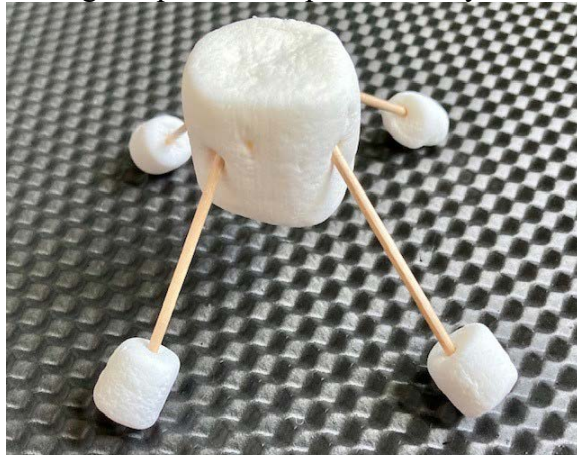

Figure 2. Small marshmallows are added on to the ends of the four toothpicks.
3. Place a small marshmallow at the end of each of the four toothpicks as shown in *Figure 2*. These make the ends of the legs rounded, just like on Ingenuity.